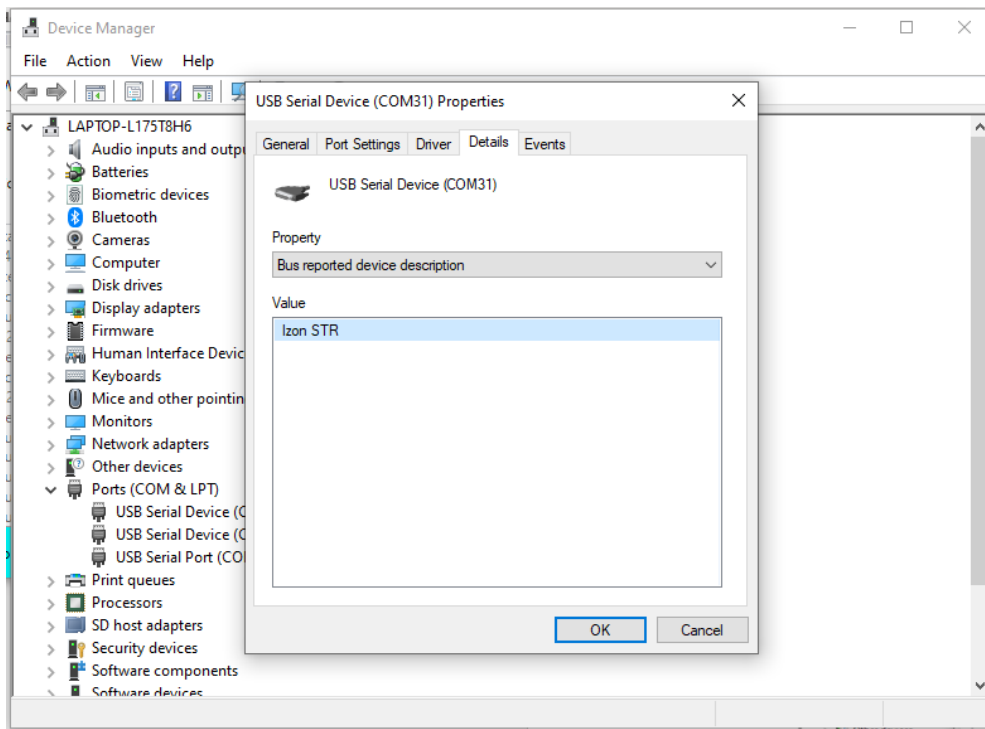

Figure 2: 'Bus reported device description' noted as 'Izon STR'.
- d. The Value should read 'Izon STR' for the Delta, as shown in figure 2. Make note of the COM number associated with the Delta as you will need it to select from the Port list on the Delta Tester.